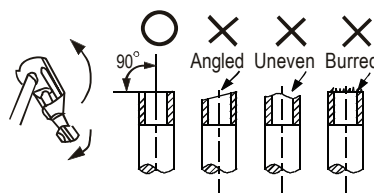

Fig.9-1
- Cut the pipe with an approved pipe cutter (Refer to Fig. 9-1)